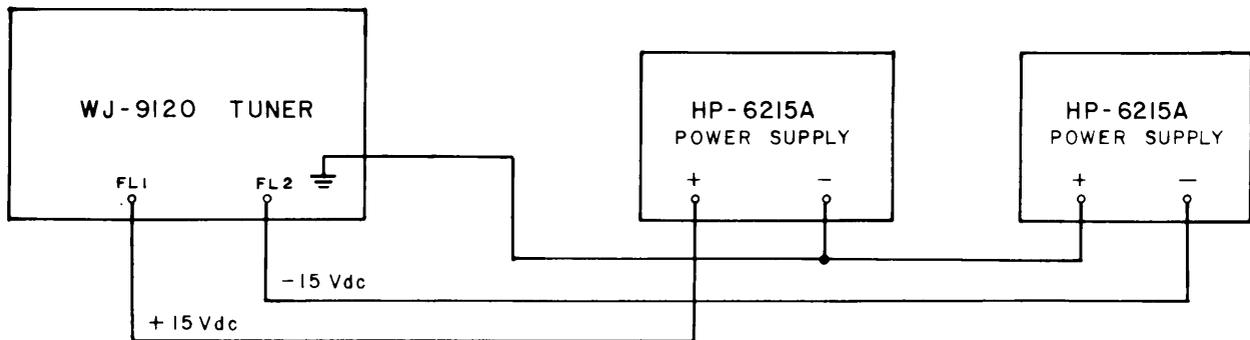
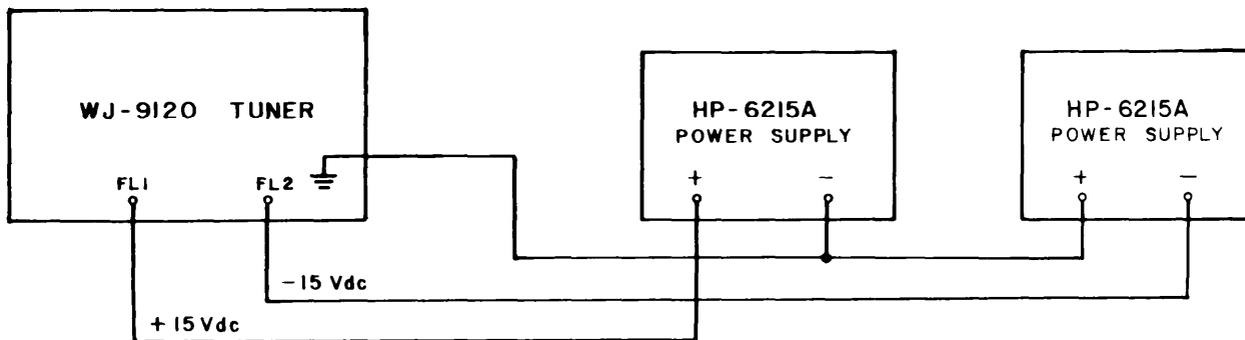

Figure 4-2. Power Connection, Low Band Operation
Figure 4-3. Power Connection, High Band Operation
4.5.1 Troubleshooting of the WJ-9120 can be accomplished utilizing the high band and low band power connections as illustrated in Figures 4-2 and 4-3. The initial investigation should be directed toward determining if the problem is related to the high or low band operation or if the problem is common to both bands. Once this has been determined, reference should be made to the functional block diagram in Figure 3-1 to aid in localizing the trouble to a specific subassembly. By utilizing acceptable troubleshooting techniques, inject the proper input signal and trace it back from the output. This method should aid in identifying the faulty component. Before attempting troubleshooting and repairs of the tuner, the technician should
The performance checks that follow are designed to aid in troubleshooting and evaluating the operation of the WJ-9120 Tuner. They can also serve as part of a periodic maintenance check. Any output not used during a particular check should be terminated into its characteristic impedance of 50 ohms. Figures 4-2 and 4-3 illustrate the power connections for the low band and high band operation. These power connections will be used throughout the test procedures.
- (1) Connect the +15 Vdc and -15 Vdc power supplies as illustrated in Figure 4-2 and apply power to the unit.
- (2) Remove the covers necessary to gain access to the A8 sub-assembly.
- (3) Using the FLUKE 8000A DVM, measure the dc voltage at terminal A8E3. The voltage at A8E3 should measure $+10.5 \pm 0.05$ Vdc.
- (1) Connect power to the tuner for low band operation, as illustrated in Figure 4-2 and apply power.
- (2) Connect the HP-432A RF Power Meter, with the HP-8481A Power Sensor to the 21.9-33.4 MHz LO output jack (J6).
- (3) Tune the tuner through its range while observing the LO output level on the RF Power Meter. The output should remain between -17 and -7 dBm (31.5mV to 0.1 V) throughout the frequency range.
- (4) Remove the RF Power Meter and connect the frequency counter to jack J6.
- (5) Rotate the tuner shaft fully clockwise, then fully counterclockwise while noting the frequency reading at each extreme. The frequency counter should read approximately 21.7 MHz when the tuner shaft is fully counterclockwise and approximately 33.6 MHz when fully clockwise.
- (1) Connect the power connection as illustrated in Figure 4-2 and connect the frequency counter to the 21.9- 33.4 MHz LO output J6.
- (2) Adjust the tuner shaft for a frequency counter reading of 21.9 MHz.
- (3) Connect the negative line of the HP-721A Power Supply to the tuner DAFC input (FL6) and set the DAFC voltage to -4.0 Vdc. Note the frequency counter reading.
- (4) Connect the positive line of the HP-721A Power Supply to FL6 and set the DAFC voltage to +4.0 Vdc. Note the frequency counter reading.
- (5) The difference between the readings in steps (3) and (4) is the DAFC range at the low end of the band. The DAFC range should be a minimum of 5.0 kHz.
- (6) Disconnect the DAFC connection from FL6 and adjust the tuner shaft for a frequency counter reading of 33.4 MHz. Repeat steps (3) and (4).
- (7) The difference between steps (3) and (4) is the DAFC range at the upper end of the band. The DAFC range should be a minimum of 12.0 kHz.
- (1) Connect power to the tuner for high band operation as illustrated in Figure 4-3 and apply power.
- (2) Connect the HP-432A RF Power Meter with the HP-8481A Power Sensor to the 22- 40 MHz LO output jack (J4).
- (3) Tune the tuner through its range while observing the LO output level on the RF Power Meter. The output should remain between -17 and -7 dBm (31.5 mV to 0.1 V) throughout the frequency range.
- (4) Remove the RF Power Meter and connect the frequency counter to jack J4.
- (5) Rotate the tuner shaft fully clockwise, then fully counterclockwise while noting the frequency reading at each extreme. The frequency counter should read approximately 40.2 MHz when the shaft is fully clockwise and 21.8 MHz when fully counterclockwise
- (1) Connect the power connection as illustrated in Figure 4-3 and connect the frequency counter to the 22-40 MHz LO output jack (J4).
- (2) Adjust the tuner shaft for a frequency counter reading of 22.0 MHz.
- (4) Connect the positive line of the HP-721A Power Supply to the tuner DAFC input (FL6) and set the DAFC voltage to +4.0 Vdc. Note the frequency counter reading.
- (5) The difference between the readings in steps (3) and (4) is the DAFC range at the low end of the band. The DAFC range should be a minimum of 12.0 kHz.
- (6) Disconnect the DAFC connection from FL6 and adjust the tuner shaft for a frequency counter reading of 40 MHz. Repeat steps (3) and (4).
- (7) The frequency difference between steps (3) and (4) is the DAFC range at the high end of the band. The DAFC range should be a minimum of 30 kHz.
- (1) Connect power to the WJ-9120 Tuner for low band operation (Figure 4-2) and connect the HP-245L Frequency Counter to the 21.9 - 33.4 MHz LO output connector (J6).
- (2) Rotate the tuner shaft to its extreme counterclockwise position.